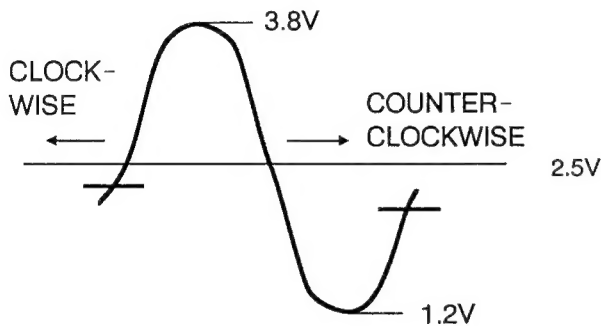

Figure 1 Voltage Change in Coil Adjustment
5. Turn AFT centering coil (T102) on Main board to fully clockwise, then gradually turn the coil counterclockwise until voltage indicates maximum (approximately 3.8 volt). Continue to turn the coil same direction until voltage indicates minimum (approximately 1.2 volt), then turn the coil opposite direction until voltage indicates 2.5 volt. Voltage change in the coil adjustment is shown in figure1.